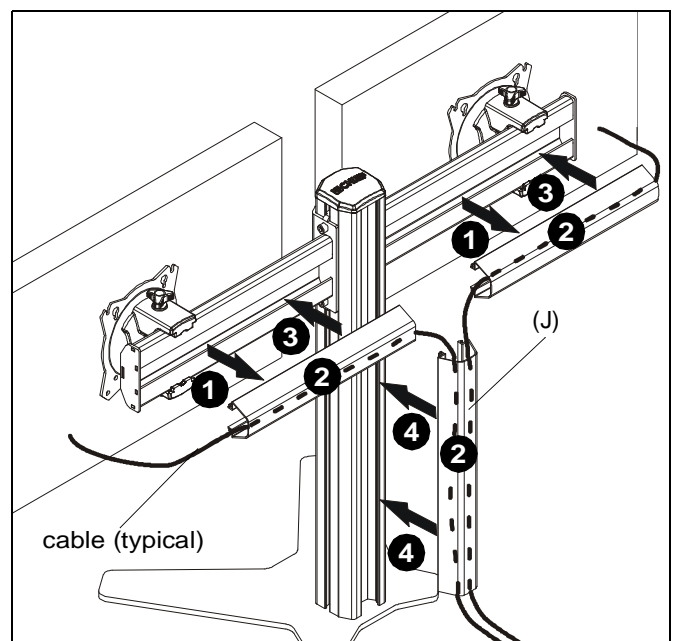

Figure 14
- Remove two cable management covers on back of array arms. (See Figure 14)
- Route cables from display through cable management covers (removed covers and J) as desired. (See Figure 14)
- Reinstall removed covers to array arms. (See Figure 14)
- Install column cable management cover (J) onto column (F). (See Figure 14)